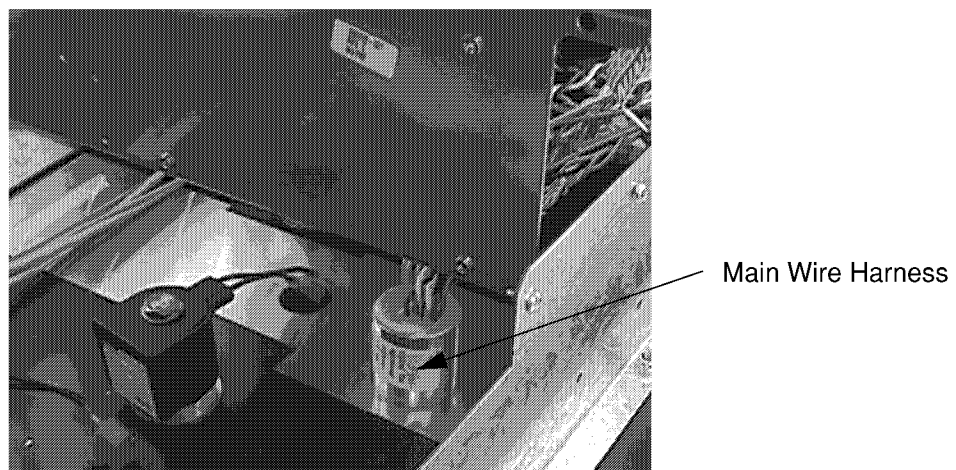

Figure 3-7 Main Harness View From Side 1
12. Install the main wire harness PN 2-301144-HRN by feeding the wires that have been taped together with electrical tape down into the junction box. Secure with coupling and washer below the vapor barrier. Ensure that the coupling is engaged with five full threads and is wrench tight. See Figure 3-7.